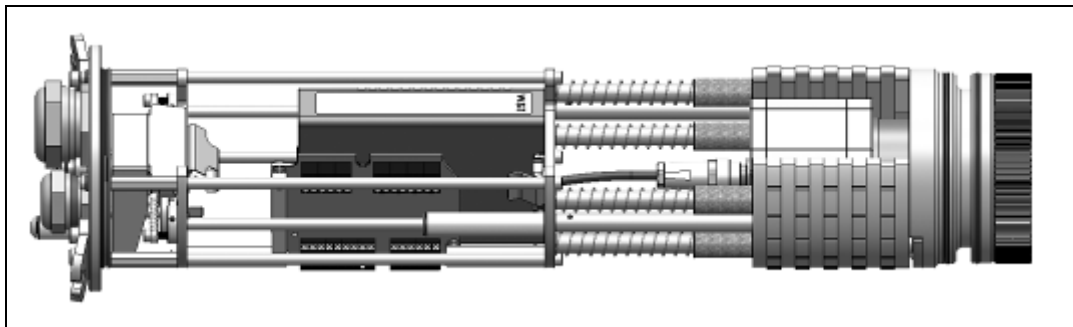

Figure 51: Chassis with PI camera, industrial PIF and USB server Gigabit
7. Then connect the PI camera and the USB server Gigabit with the provided USB cable and the Industrial PIF with the camera. Combine the network connector and the USB server Gigabit (**Figure 51**).